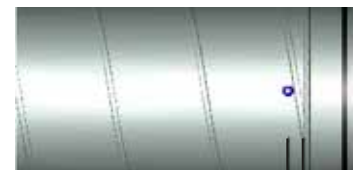

Figure 3
3. Fully insert to the bead the gasketed end of the fitting into the spiral pipe. Turning the fitting slightly aids insertion. Removal, if necessary, is also aided by turning (figure 3).
5. Fasteners should be positioned 1/2 inch from the bead to prevent damage to the gasket (figure 3).